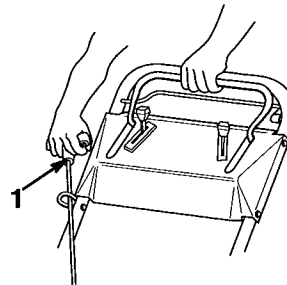

Figure 49
2. Slowly rotate engine several times, using starter rope, to distribute oil (Fig. 49).